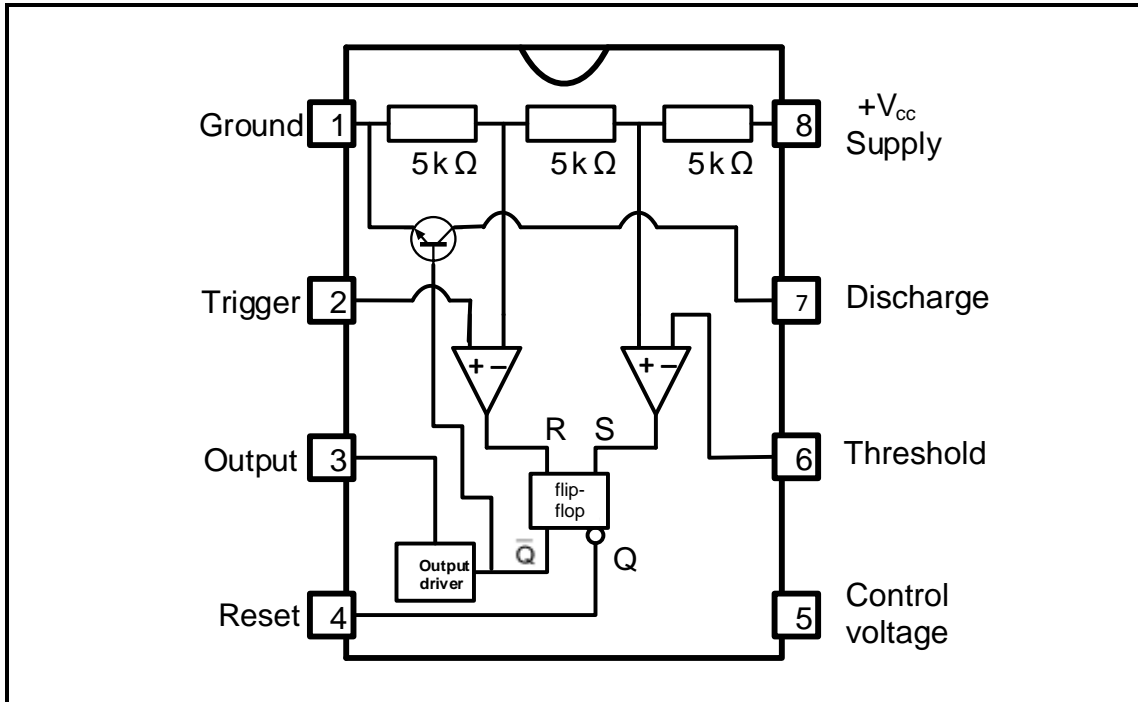

FIGURE 3.3: INTERNAL BLOCK DIAGRAM OF A 555 IC
3.3 FIGURE 3.3 below shows the internal block diagram of the 555 IC. Answer the questions that follow.